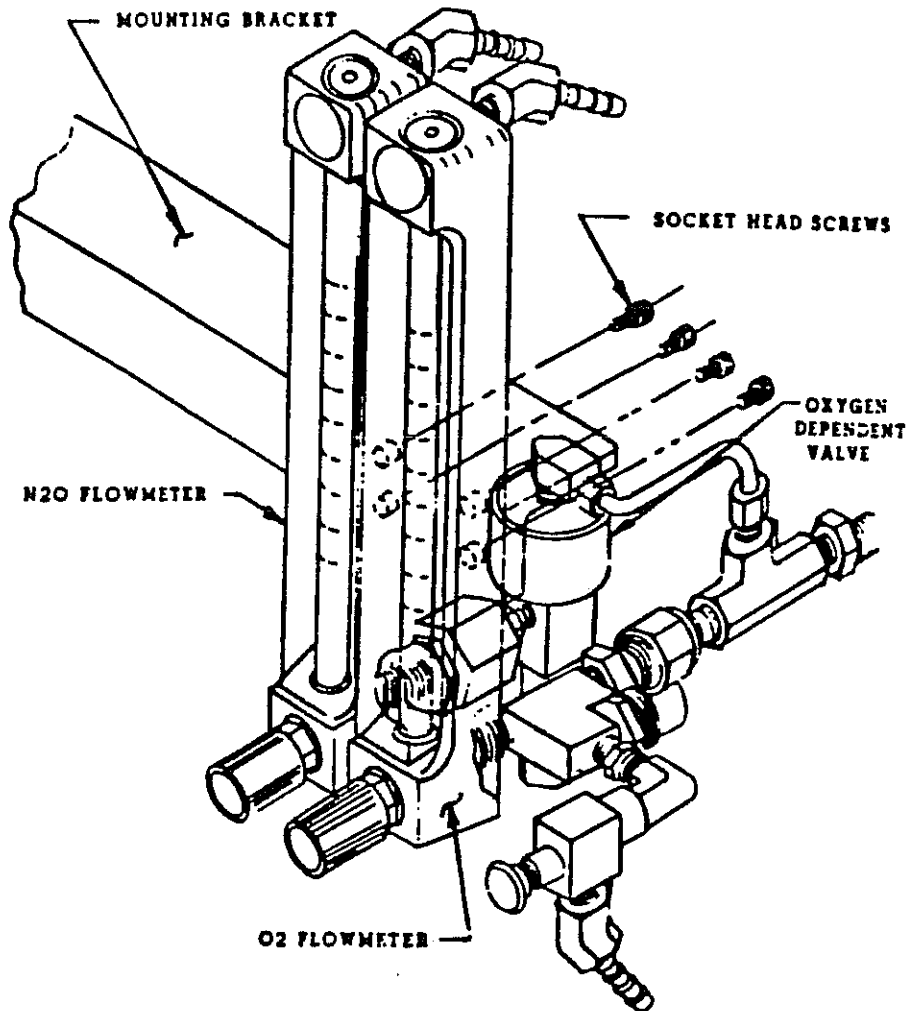

Figure 4 - Nitrous Oxide Flowmeter Add-On
2. Align the rear holes of the oxygen flowmeter to the extreme right holes of the mounting bracket (Figures 4, 5, 11).
NITROUS OXIDE ADD-ON KIT (See Figures 4, 6)
3. Place the oxygen DISS nut from the oxygen-dependent add-on to the DISS male on the lower rear of the oxygen flowmeter. Turn the DISS nut clockwise to tighten (see Figure 4).
4. Place the nitrous oxide DISS nut from the oxygen-dependent assembly to the DISS male on the lower rear of the nitrous oxide flowmeter (refer to Figure 4). Turn the DISS nut clockwise to tighten.